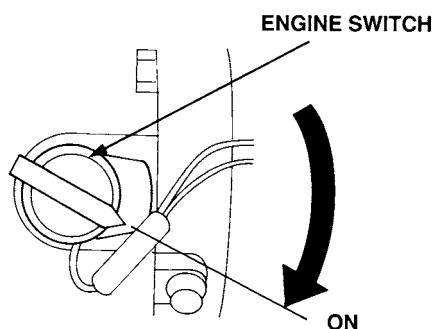

Figure 26. Engine ON/OFF Switch (ON Position)
1. Turn the engine start/stop switch to the "ON" position (Figure 26).